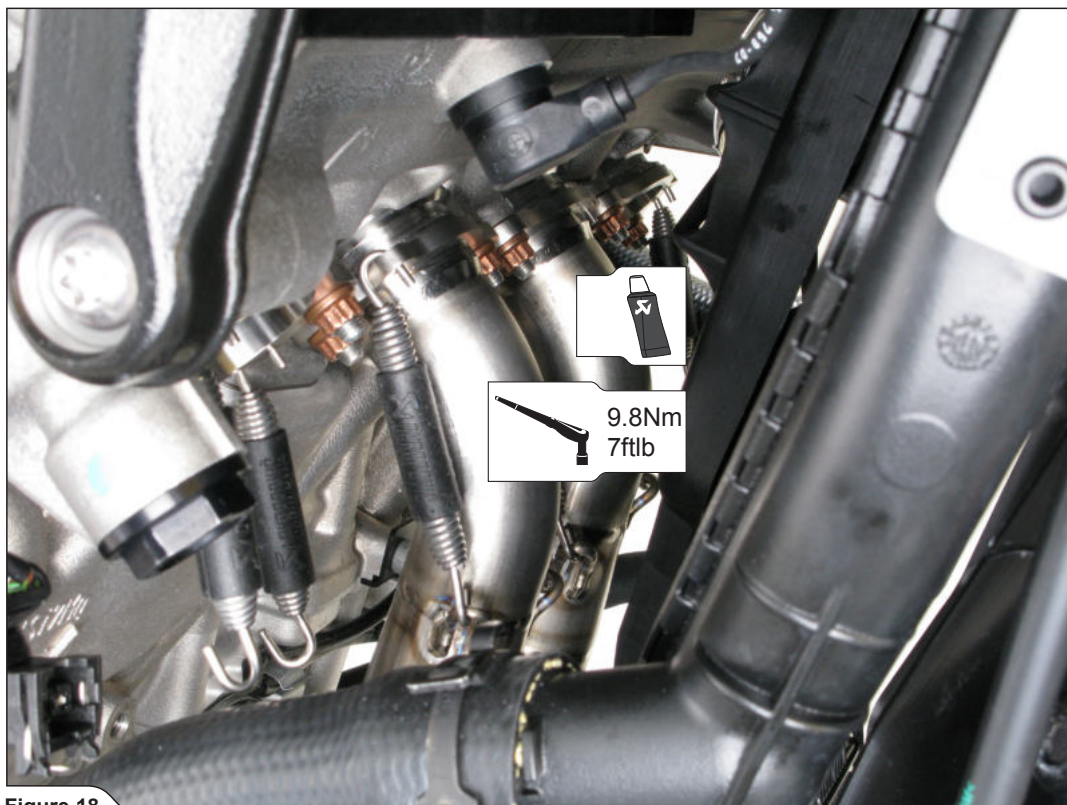

Figure 18
2. Insert the middle header tubes all the way into the sleeves together, attach the springs and tighten the middle flanges to a specified torque (**Figure 18**).